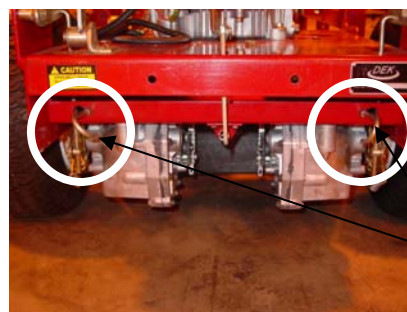

Figure 5
10. To physically move the mower when the engine is **NOT** running, the hydrostatic drive units will need to be disengaged (bypassed). To bypass these hydro units, pull the two levers below the rear of the chassis (Figure 5) through the holes and slide them in the slots provided. This will allow the hydraulic fluid to bypass the drive wheels and allow the drive wheels to move freely.